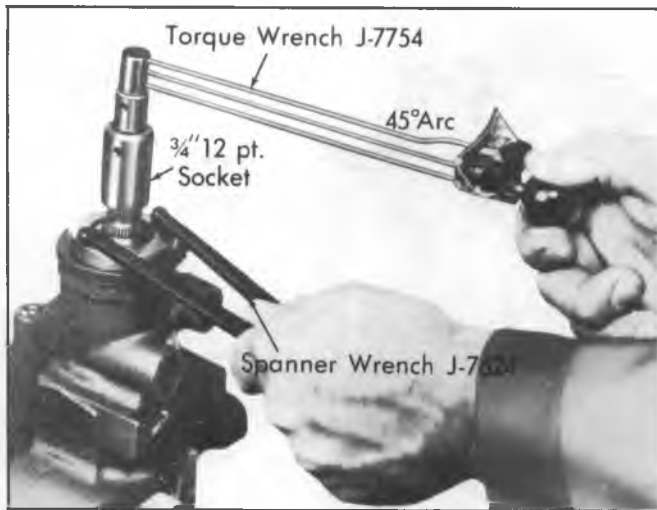

Fig. 60—Adjusting Thrust Bearing Preload
- e. While holding the adjusting screw, tighten the locknut to 25 ft. lbs. using Adapter J-5860 (fig. 60) and recheck the adjustment.